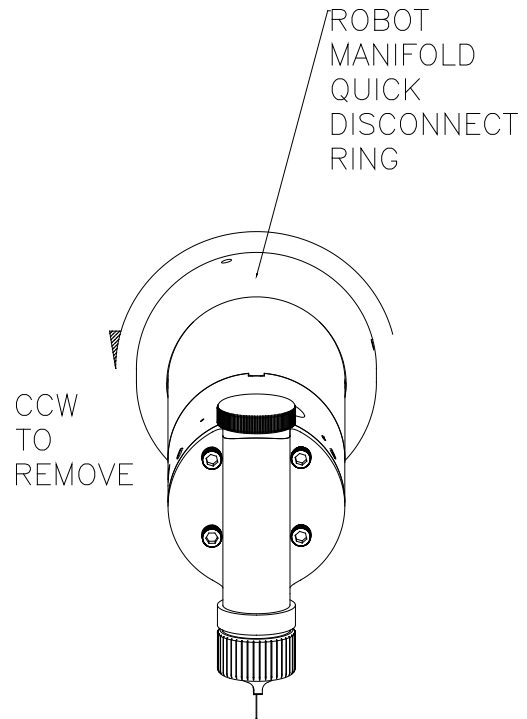

Figure 7: Removal of Applicator
1. Relieve all pressures, flush out paint lines, and blow all lines dry. Remove gun from robot by turning the retaining ring counter clockwise from the robot mount plate (See Figure 7.)
1. Remove the gun from the robot by turning the retaining ring counter clockwise from the robot mount plate. (See Figure 7.)